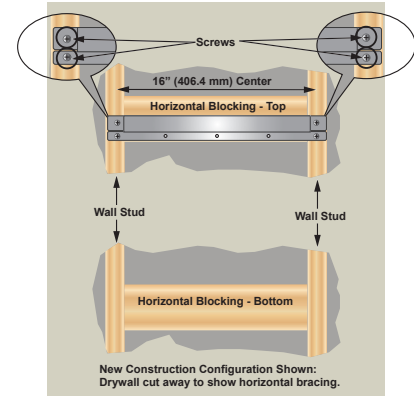

Figure 6 - Wall bracket installation.
1. Secure the wall mounting bracket with the four supplied lag bolts to the wall studs. See Figure 6. DO NOT secure to the drywall only. NOTICE: The supplied fasteners are for wood studs only. When mounting on any other surface use fasteners approved for that wall material/construction. Make sure to level the bracket.